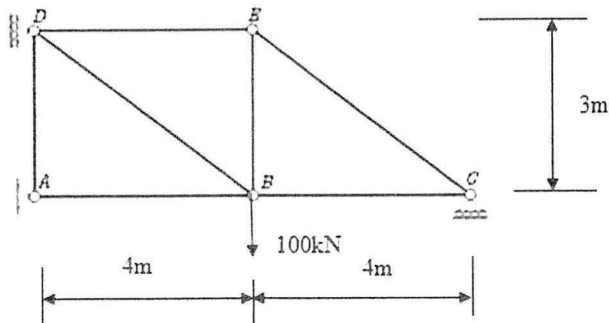

Figure 3(b)
- Q3** (a) State **two (2)** advantages of indeterminate truss over a determinate truss and **one (1)** disadvantage. (6 marks)
- (b) **Figure 3(b)** shows a truss which is pinned supported at A and roller supported at C and D with a vertical load of 100 kN is subjected at B.